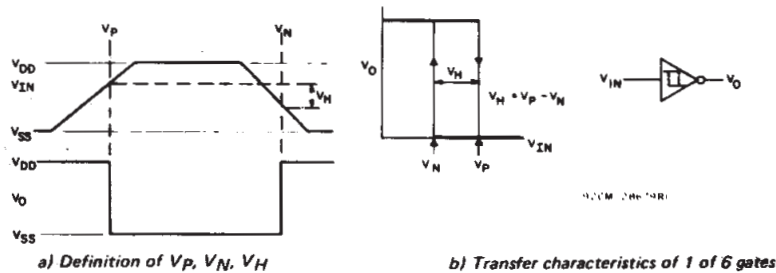

Fig. 6 - Hysteresis definition, characteristics, and test set-up.
■ CD40106B consists of six Schmitt-trigger circuits. Each circuit functions as an inverter with Schmitt-trigger action on the input. The trigger switches at different points for positive- and negative-going signals. The difference between the positive-going voltage ( $V_P$ ) and the negative-going voltage ( $V_N$ ) is defined as hysteresis voltage ( $V_H$ ) (see Fig.6). The CD40106B types are supplied in 14-lead hermetic dual-in-line ceramic packages (F3A suffix), 14-lead dual-in-line plastic packages (E suffix), 14-lead small-outline packages (M, MT, M96, and NSR suffixes), and 14-lead thin shrink small-outline packages (PW and PWR suffixes).